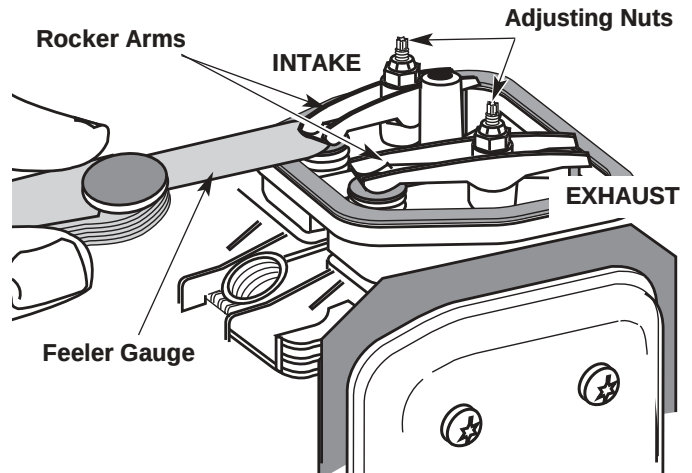

Fig. 54
9. Slide the feeler gauge between the rocker arm and the valve return spring. Measure the clearance between the valve stem and rocker arm (Fig. 54). Measure both the intake and exhaust valves.
The recommended clearance for both intake and exhaust is .003 – .006 in. (.076 – 0.152 mm). Use a standard automotive .005 in. (0.127 mm) feeler gauge. The feeler gauge should slide between the rocker arm and valve stem with a slight amount of resistance, without binding. See Figure 54 and 55.